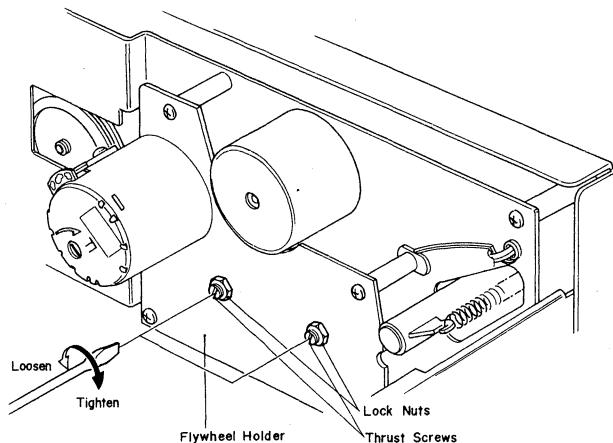

Fig. 5.16
- (1) Refer to Fig. 5.16. Tighten the Thrust Screws until the gap between the Flywheel Assemblies and Thrust Screws becomes minimized when both of the Capstan Shafts are moved backwardly and forwardly (the Thrust Springs between the Capstan Flanges and Flywheel Thrust Caps are in a flat state). Excessive tightening of the Thrust Screws however will give damages on the Flywheel Assemblies, to which careful attention is invited.
- (2) Return the Thrust Screws by 1/2 turn.
- (3) Fixing the Thrust Screws with a screwdriver, lock the Lock Nut.
- (4) Apply a quantity of lock tight paint to the Thrust Screws.